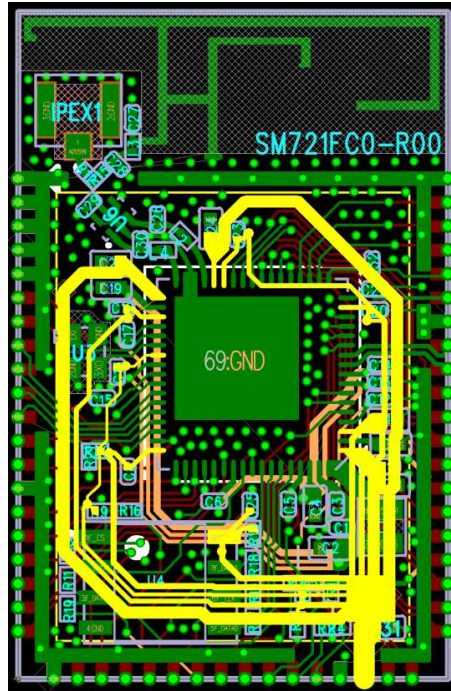

Figure 2-2 Star Routing
- The path of the power trace is recommended using star routing as shown in Figure 2-2 for better noise isolation among circuit blocks. It is strongly recommended that the power trace for PA and DCDC (VRH_PA_G for 2.4G, VRH_PA_A for 5G, VRM_RF for BT, VAH_DCDC for DCDC) is routed separately.